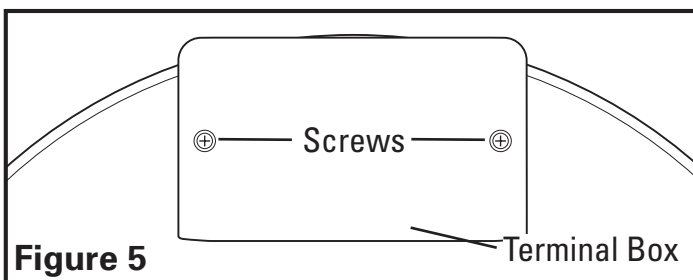

Figure 5
1. Remove the screws securing the terminal box cover plate located on the side of the fan. All fan motor connections are prewired to an electrical terminal strip. A 3/8" romex type cable restraint connector will be needed to secure the wiring through the knockout provided on the side of the terminal box (**Figure 5**).